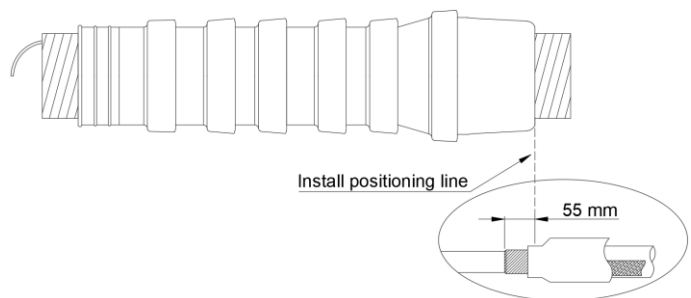

Fig.9
- Place the cold shrink termination onto the cable, aligning the mark with the end of the termination as shown in Fig.9.